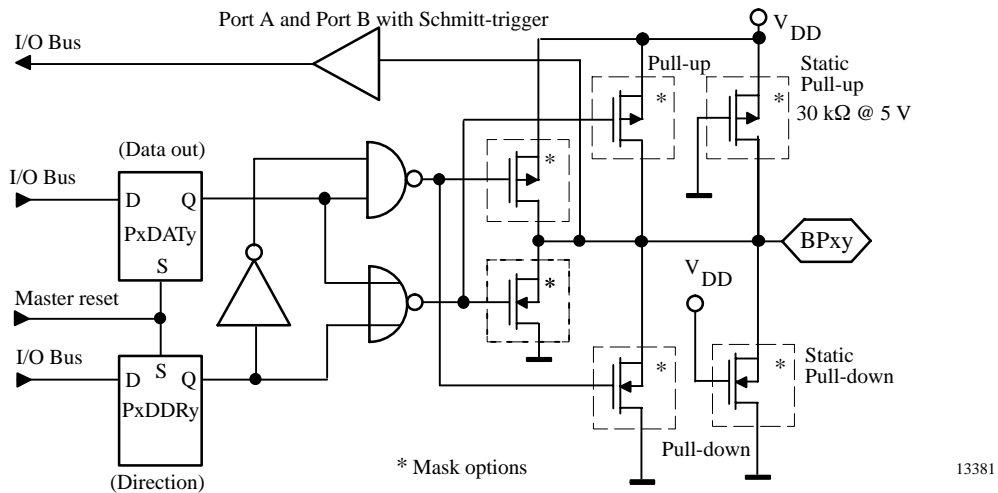

Figure 19. Bidirectional Ports 5, 7, A, B and C
- 3) The Dynamic pullup/down transistors are mask programmable and if programmed, are only activated when the associated complementary driver transistor is off. ie. A dynamic pull up transistor is only active when the port is either in input mode (both drivers off) or when a logical 1 is written to the port pad (low driver off) in output mode. (figure 19)
- 4) The Static Pullup/down transistors are mask programmed and if programmed are always active independent of the port direction or driven state. (figure 19)
A, B and C (see figure 19). Two additional multiplexers allow data and port direction control to be passed over to other internal modules (Timer 0 or Buzzer). Each of the four Port 4 pins can be individually switched by the Timer/Counter I/O Register (TCIO). Figure 23 shows the internal interfaces to Port 4.